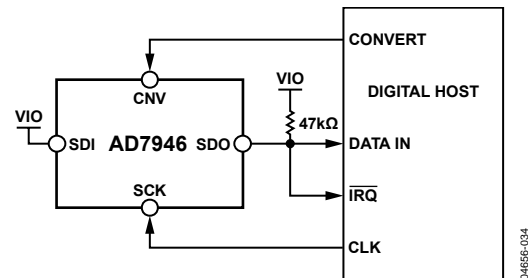
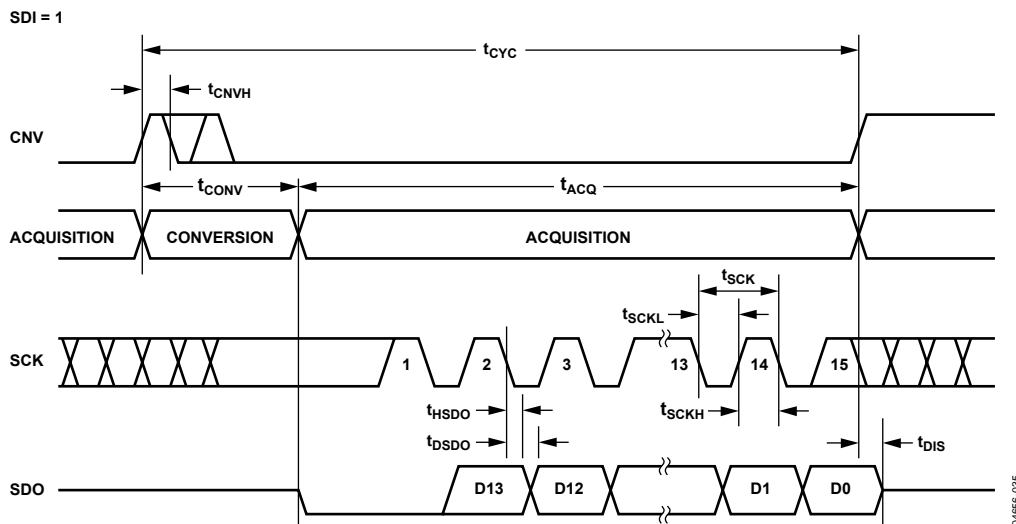
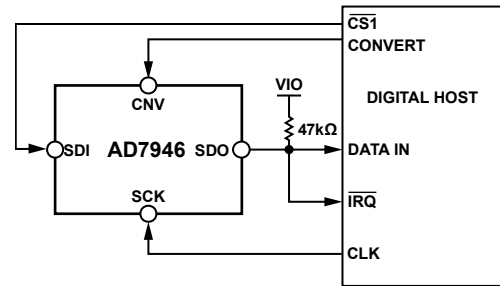
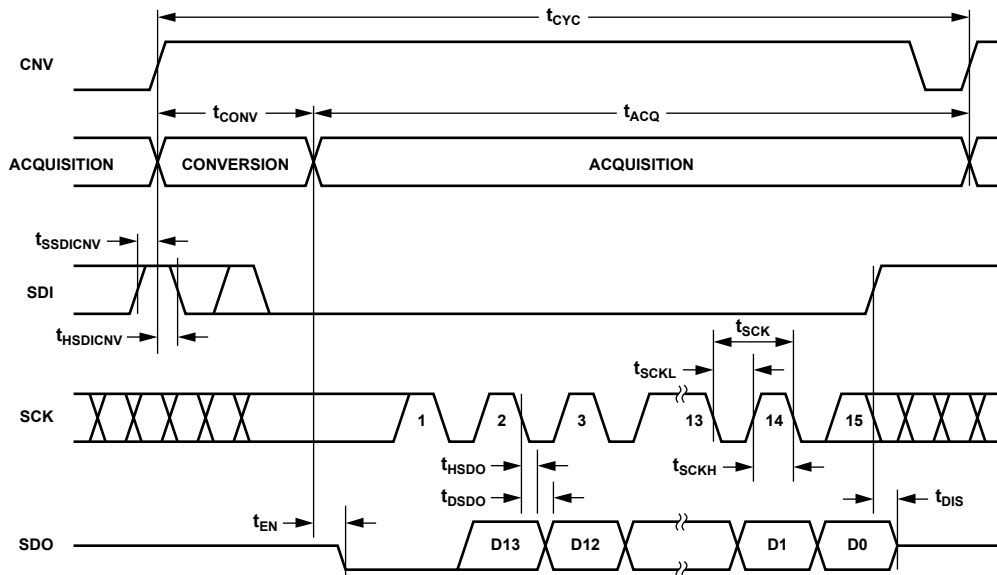

Figure 35.  $\overline{\text{CS}}$  Mode 3-Wire with BUSY Indicator Connection Diagram (SDI High)
Figure 36.  $\overline{\text{CS}}$  Mode 3-Wire with BUSY Indicator Serial Interface Timing (SDI High)
Figure 39.  $\overline{\text{CS}}$  Mode 4-Wire with BUSY Indicator Connection Diagram
Figure 40.  $\overline{\text{CS}}$  Mode 4-Wire with BUSY Indicator Serial Interface Timing
- In  $\overline{\text{CS}}$  mode, if CNV or SDI is low when the ADC conversion ends (see Figure 36 and Figure 40).
The connection diagram is shown in Figure 35, and the corresponding timing is given in Figure 36.
The connection diagram is shown in Figure 39, and the corresponding timing is given in Figure 40.